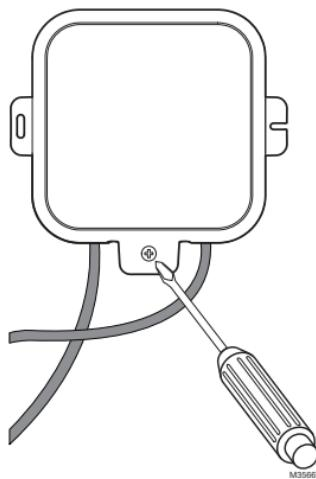

Fig. 13.
10. Attach cover and secure with bottom screw (Fig. 13).